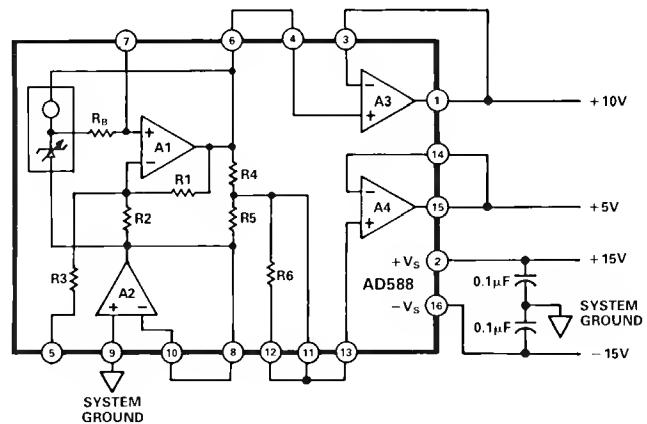
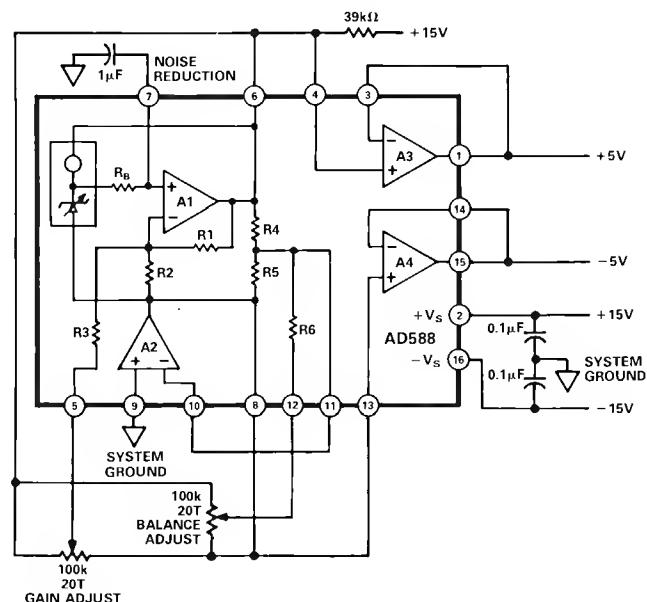
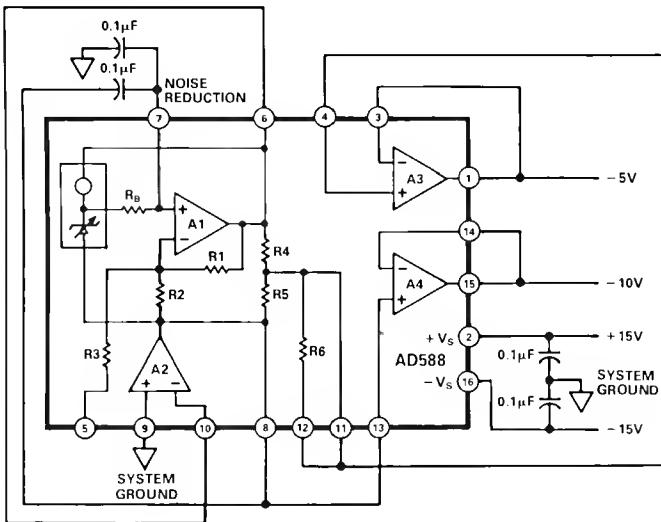

Figure 2a. +10 V Output
Figure 2b. +5 V and -5 V Outputs
Figure 2c. -10 V Output
+10 V Figure 2a
-10 V Figure 2c
+5 V, -5 V, ±5 V Figure 2b
The AD 588 can be configured to provide +10 V and -10 V reference outputs as shown in Figures 2a and 2c respectively. It can also be used to provide +5 V, -5 V or a ±5 V tracking reference as shown in Figure 2b. Table I details the appropriate pin connections for each output range. In each case, Pin 9 is connected to system ground and power is applied to Pins 2 and 16.
As indicated in Table I, a +5 V buffered output can be provided using amplifier A4 in the +10 V configuration (Figure 2a). A -5 V buffered output can be provided using amplifier A3 in the -10 V configuration (Figure 2c). Specifications are not guaranteed for the +5 V or -5 V outputs in these configurations. Performance will be similar to that specified for the +10 V or -10 V outputs.
Figure 2b shows GAIN and BALANCE trims in a +5 V and -5 V tracking configuration. A 100 k $\Omega$  20-turn potentiometer is used for each trim. The potentiometer for GAIN trim is connected between Pins 6 ( $V_{HIGH}$ ) and 8 ( $V_{LOW}$ ) with the wiper connected to Pin 5 (GAIN ADJ). The potentiometer is adjusted to produce exactly 10 V between Pins 1 and 15, the amplifier outputs. The BALANCE potentiometer, also connected between Pins 6 and 8 with the wiper to Pin 12 (BAL ADJ), is then adjusted to center the span from +5 V to -5 V.
If further noise reduction is desired, an optional capacitor may be added between the NOISE REDUCTION pin and ground as shown in Figure 2b. This will form a low-pass filter with the  $4\text{ k}\Omega R_B$  on the output of the Zener cell. A  $1\text{ }\mu\text{F}$  capacitor will have a 3 dB point at  $40\text{ Hz}$  and will reduce the high frequency (to  $1\text{ MHz}$ ) noise to about  $200\text{ }\mu\text{V p-p}$ . Figure 4 shows the  $1\text{ MHz}$  noise of a typical AD588 both with and without a  $1\text{ }\mu\text{F}$  capacitor.
Note that a second capacitor is needed in order to implement the NOISE REDUCTION feature when using the AD588 in the -10 V mode (Figure 2c.). The NOISE REDUCTION capacitor is limited to 0.1  $\mu$ F maximum in this mode.